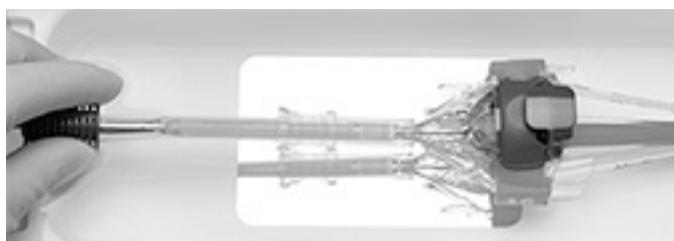

Figure 21
13. Advance the capsule to cover the bioprostheses frame paddles (Figure 21), pausing when the capsule covers the proximal half of the paddles to confirm the paddles are both still properly seated before advancing further.